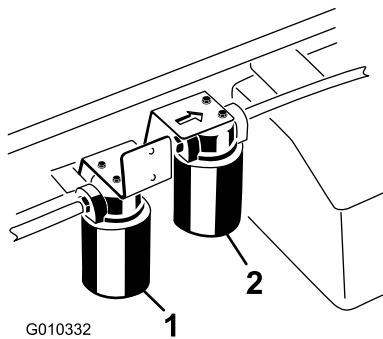

Figure 68
3. Place a drain pan under the filter and remove the filter (Figure 68).
1. Clean the area around the high-flow-filter mounting area (Figure 68).